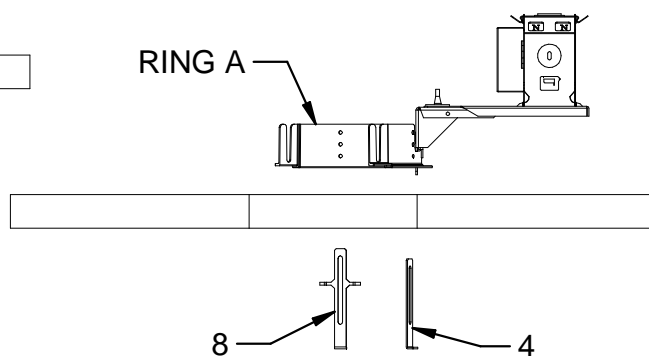
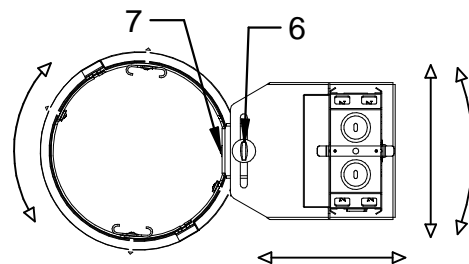

FIG. 2
FIG. 4
- C. Position RING "A" by centering it on ceiling opening. Hold RING "A" down against the top of the ceiling and install two clips (4, 8) by pushing lower portion of clip (4, 8) onto lip of metal flange or ceiling cut out while aligning the slot in clip (4) with the screws (5) in Ring "A". With ring "A" centered and pressed down firmly, tightening two screws (5) to secure. (SEE FIG 2 and 3) RING "A" can be rotated as needed to clear any obstacles and/or to be positioned best for the flexible conduit, etc. prior to tightening two screws (5) in clips (4, 8). If additional adjustment is needed, screw (6) and/or screw (7) can be loosened and junction box (3) can be further moved. Ensure that screws (6) and (7) are retightened after this step. (SEE FIG. 4)